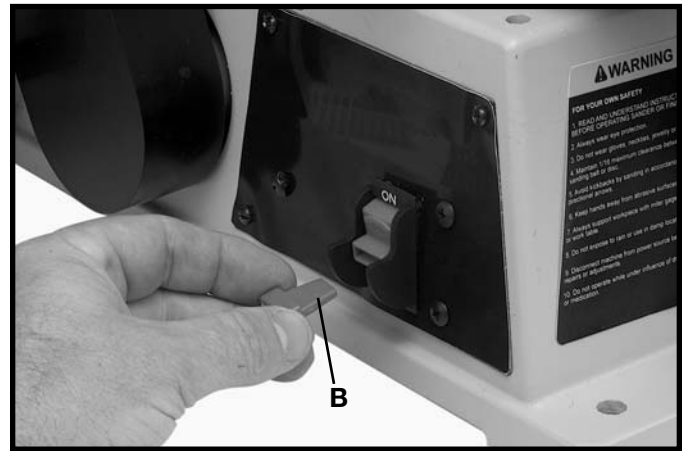

Fig. 23
**IMPORTANT:** When the machine is not in use, the switch should be locked in the “OFF” position to prevent unauthorized use. This can be done by grasping the switch toggle (B) Fig. 23, and pulling it out of the switch as shown. With the switch toggle (B) removed, the switch will not operate. However, should the switch toggle be removed while the machine is running, it can be turned “OFF” once, but cannot be restarted without inserting the switch toggle (B).